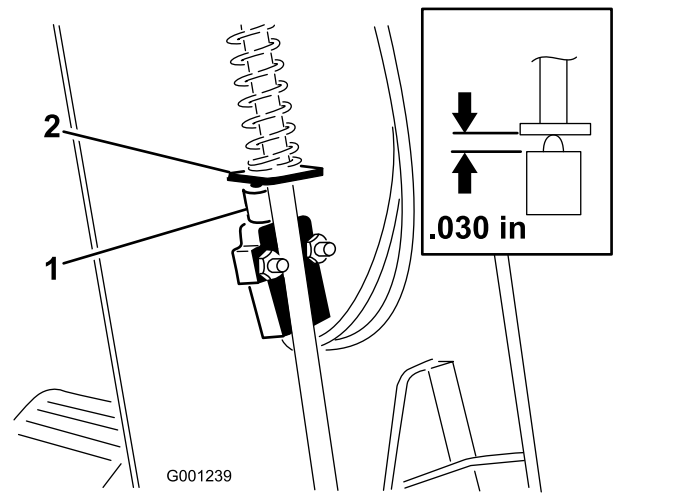

Figure 71
3. Slide the cover up the steering shaft to expose the parking brake switch (Figure 71).
5. Align the paddle of the parking brake rod with the switch plunger (Figure 71).
6. Press down on the parking-brake rod and push up the switch until the compressed length of the switch plunger is 0.7 mm (0.030 inches); refer to Figure 71.